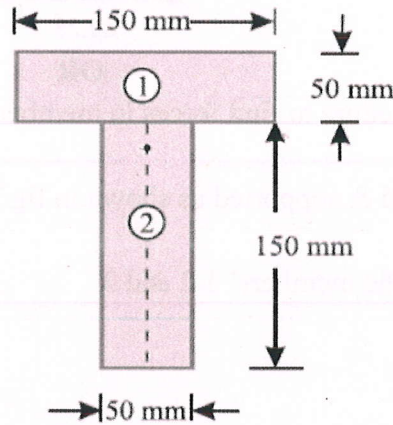

Fig.22
- b Find the moment of inertia of a T-section with flange as 150 mm × 50 mm and web as 4M mm × 50 mm about X-X and Y-Y axes through the center of gravity of the section as shown in fig..22